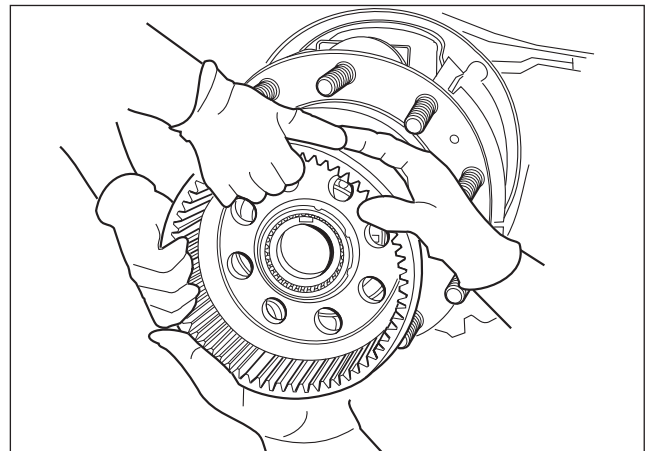

Fig. 3.4
4. Locate the ring gear carrier into position. Assembly ring gear group. - Fig. 3.4 - 3.5